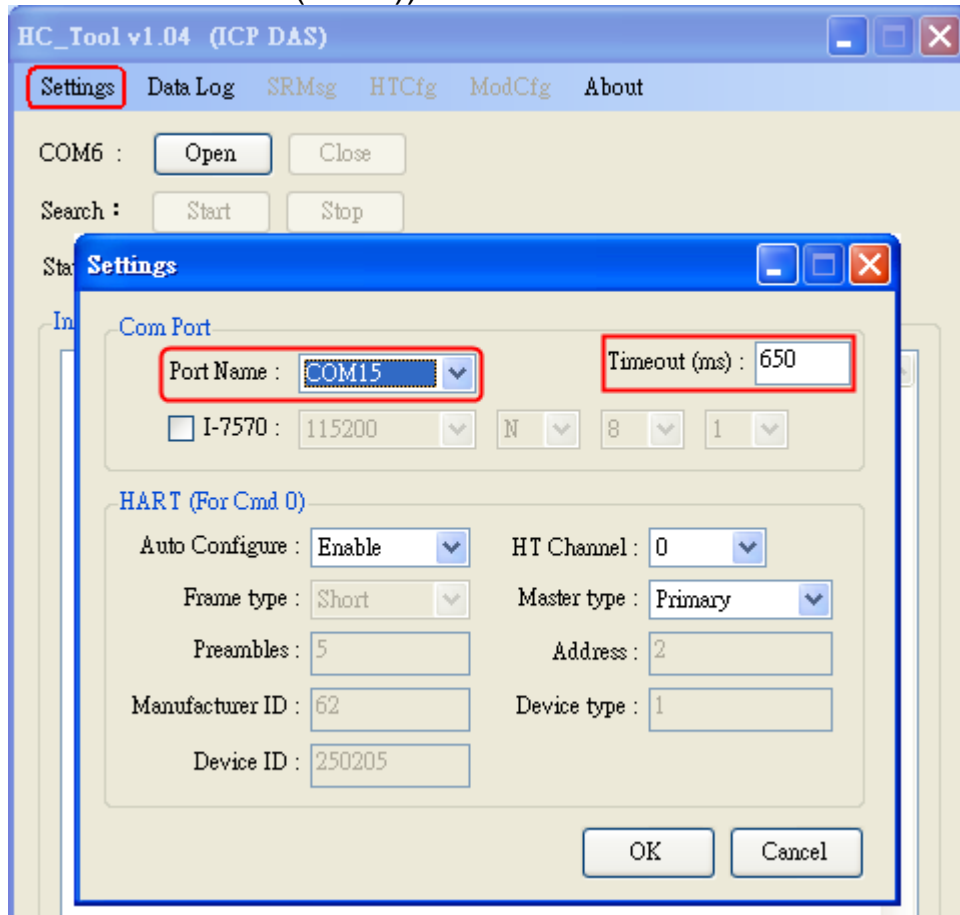

Figure 4-2: Set Serial Port No.
Please click “**Settings**” menu to open settings window of serial port and HART parameters like Figure 4-2.
- (1) Please select serial port no. of PC like Figure 4-2.
- (2) “**Timeout**” Field: HART command Timeout value. The default value is 650ms. (Supported by HC_Tool v1.04 or newer. When using HART pair-connection function, suggest to set the timeout value to be 2000 (2 sec))